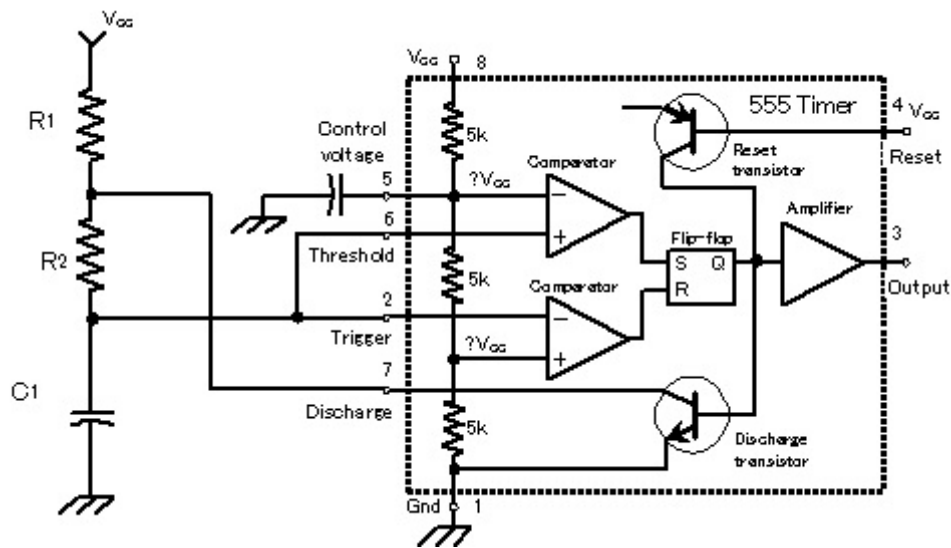

Figure 537.4. This 555 timer circuit is for the astable mode where it produces a continuous series of pulses.
555 Timer: The operation of digital circuits requires a device that will produce a binary output of 0 or 1 at a specified rate. A binary *zero* (0) state is generally ground potential and a binary *one* (1) is some voltage high enough to trigger the electronic components used in the circuit. In the case of devices based upon bipolar transistors (TTL) the nominal one state is +5 Vdc. The 555 timer and similar timing devices can produce a continuous output of zero and one pulses where the frequency is determined by the selection of external components and the duration of the one and zero states can also be manipulated to fit the needs of the circuit. A schematic diagram of the internal circuitry of the 555 timer is shown in Figure 537.4. The timer gets its name from the voltage divider which consists of three 5k ohm resistors in series at the input of the timer. This voltage divider creates two reference voltages ($\frac{2}{3} V_{cc}$ and $\frac{1}{3} V_{cc}$) that feed into an op-amp comparator. The frequency of the output pulses is determined by an external RC charging circuit. When the voltage across the external capacitor reaches the threshold level of the upper comparator the bottom bipolar transistor shorts out the capacitor and the process repeats. The values of resistors R1 plus R2 determine the charging rate of the capacitor and the value of resistor R2 controls the discharging rate. Other components within the timer is a device called an RS flip-flop and an amplifier at the output.